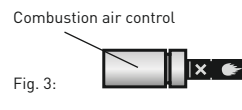

Fig. 3:
**PULL THE COMBUSTION AIR CONTROL OUT OF THE STOVE AS FAR AS IT WILL GO (FIG. 3) AND THEN LIGHT THE FIRELIGHTER MODULE. LEAVE THE DOOR OF THE BURNING CHAMBER AJAR FOR ABOUT 10 MINUTES.**